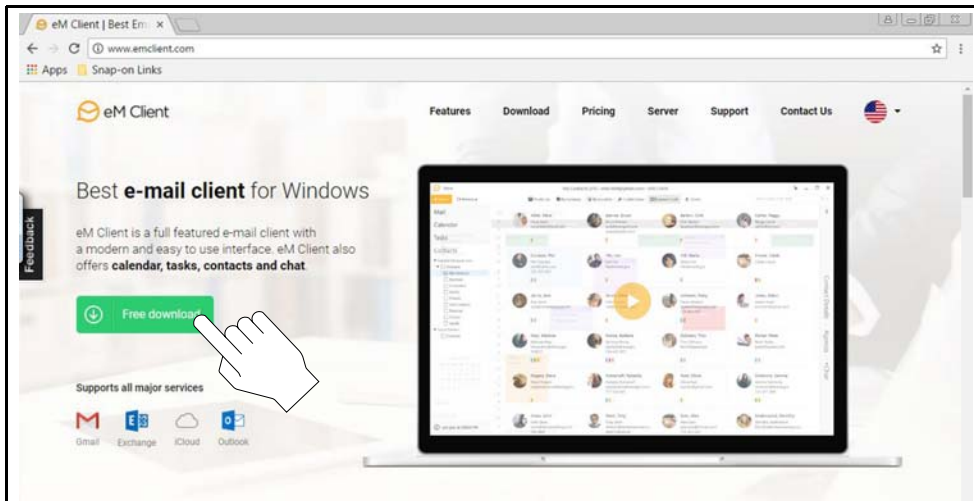

Figure 1-9
1. Download an email client (e.g. eM Client) (Figure 1-9).